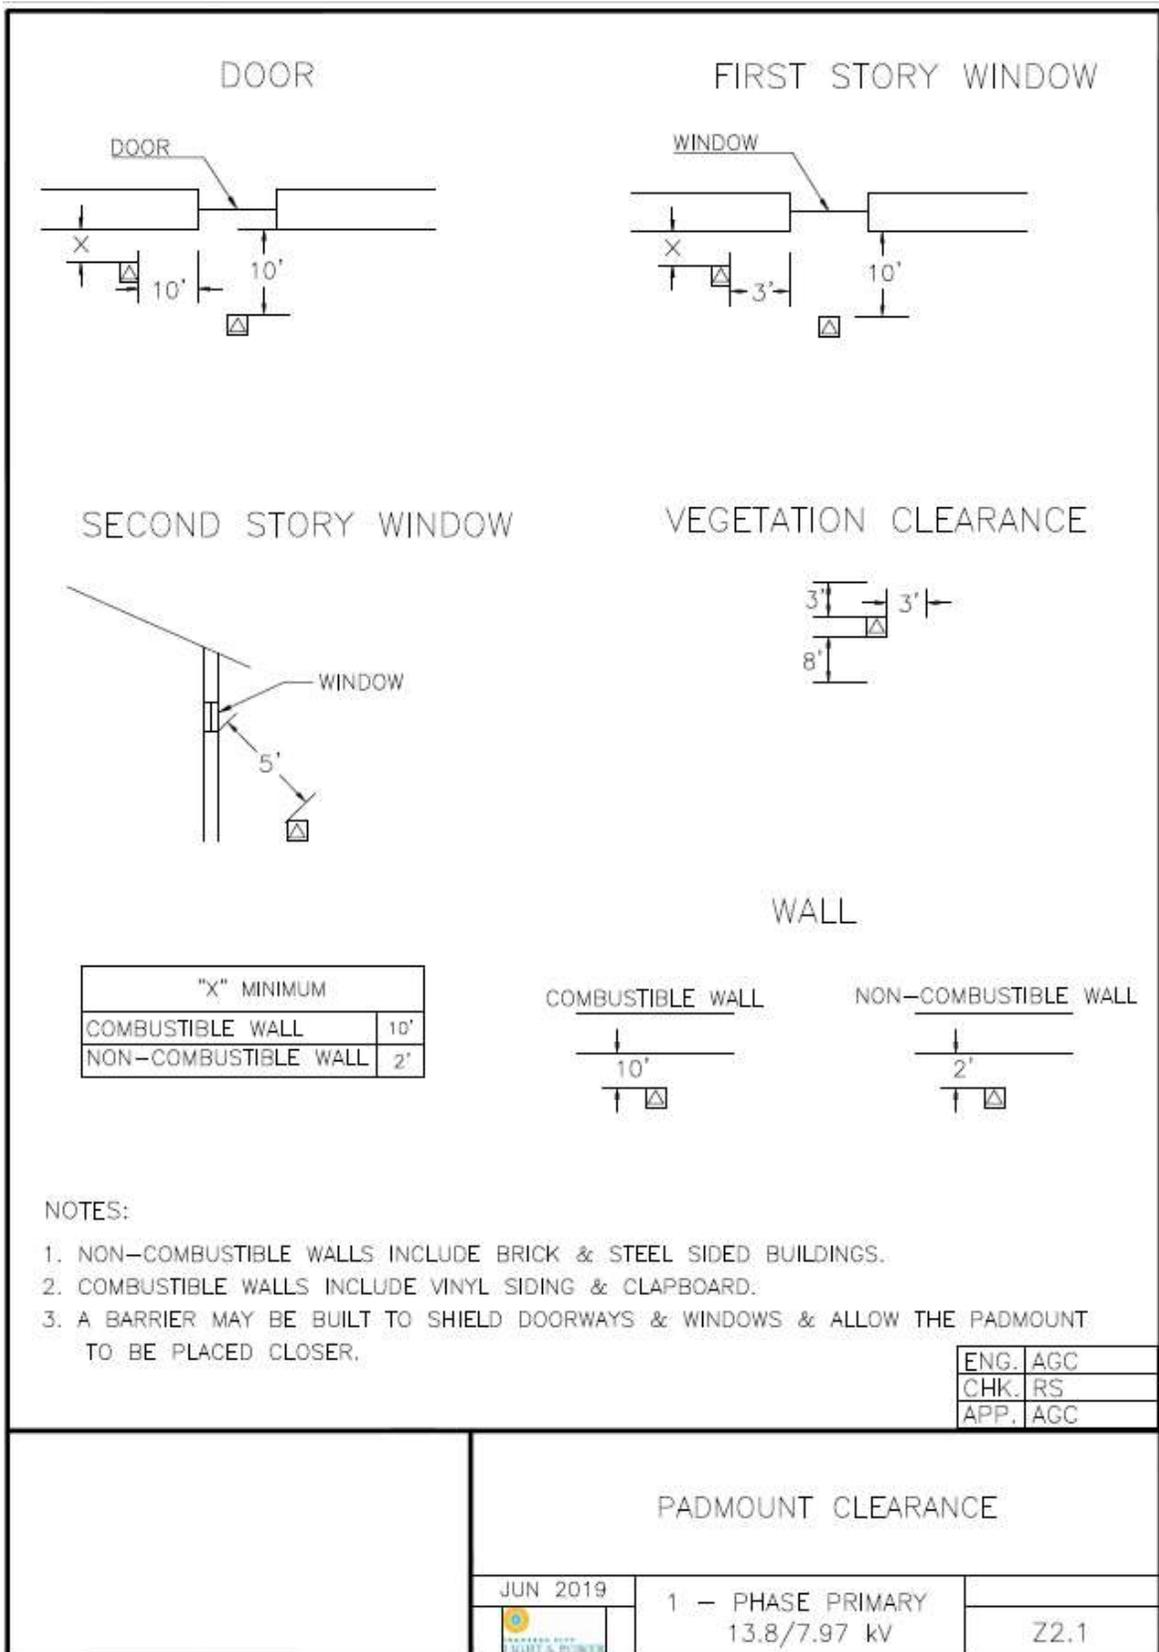

Figure 7.1 – Padmount Clearances
- ii. Flicker: Where *Customer* equipment creates *flicker* for other *Customers* at the *Point of Delivery* beyond the limits of Figure 7.1, the *Customer* must make adjustments or pay the *Company's* costs for the work required to bring the *flicker* to within allowable limits. If the *flicker* is self-induced and not affecting other *Customers*, the *Customer* may, at their option, choose to tolerate *flicker* that is beyond the values in Figure 7.1.
- a. Equipment clearances illustrated in Figure 7.1 are from the edges of the equipment pad.